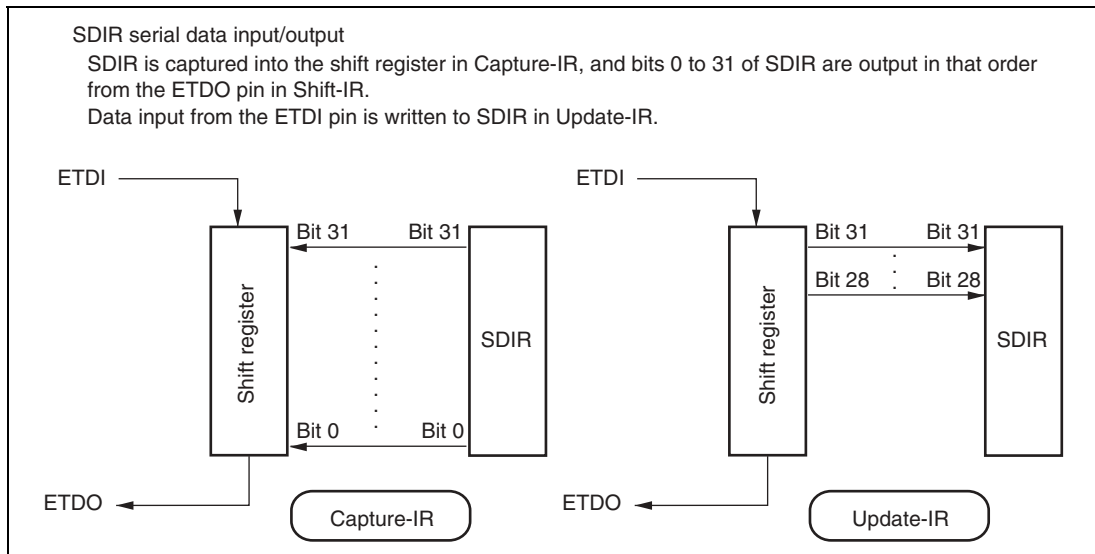

Figure 21.4 Serial Data Input/Output (1)
5. Data input/output in serial data transfer starts from the LSB. Figure 21.4 and 21.5 shows examples of serial data input/output.